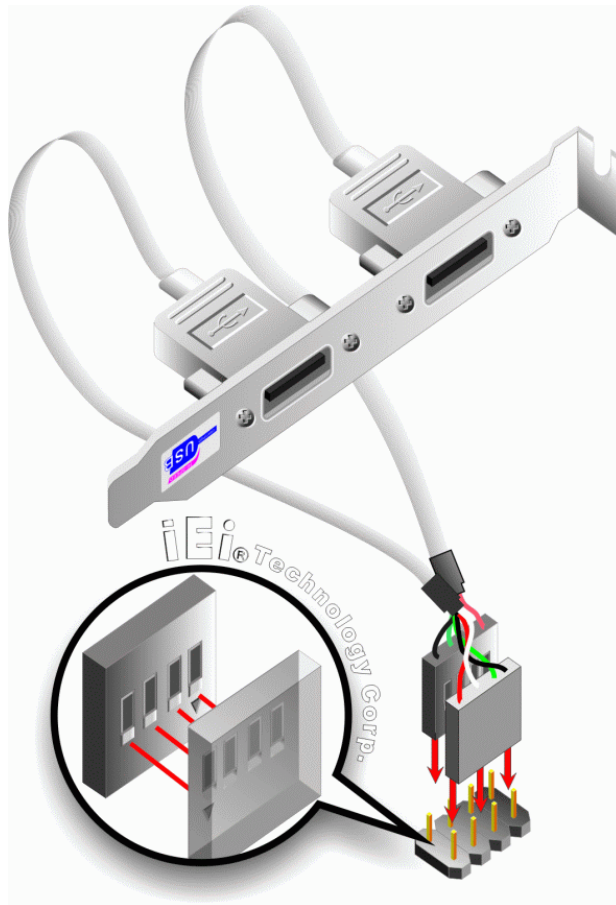

Figure 4-14: Dual USB Cable Connection
Step 3: Insert the cable connectors Once the cable connectors are properly aligned with the USB connectors on the PICOe-PV-D4251/N4551/D5251, connect the cable connectors to the on-board connectors. See **Figure 4-14**.